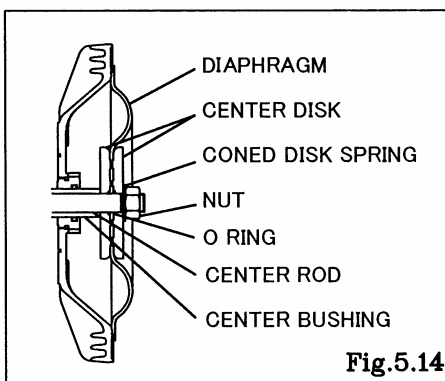

Fig.5.14
- Keep the convex side to the outside (cf. Fig.5.14).
- Put the O rings to both sides of the diaphragm. (cf. Fig.5.14)